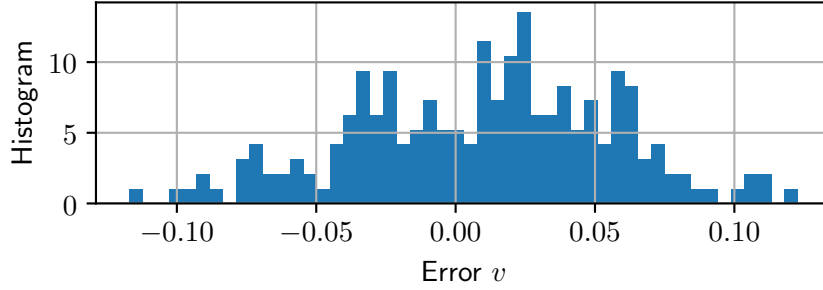

Figure 3: Histogram of errors between measured data and model for non-linear sensor calibration data in the range $0 \leq x \leq 1$.
6. Determine how good each sensor is, i.e., what is its variance, see Figure 3. The tricky aspect is that some sensors have a variance that varies with x . If this is the case, you need to create a model for this, i.e., you need $\sigma_{V(x)}$. Note, if the variance changes slowly with x , a simple look-up table would suffice.